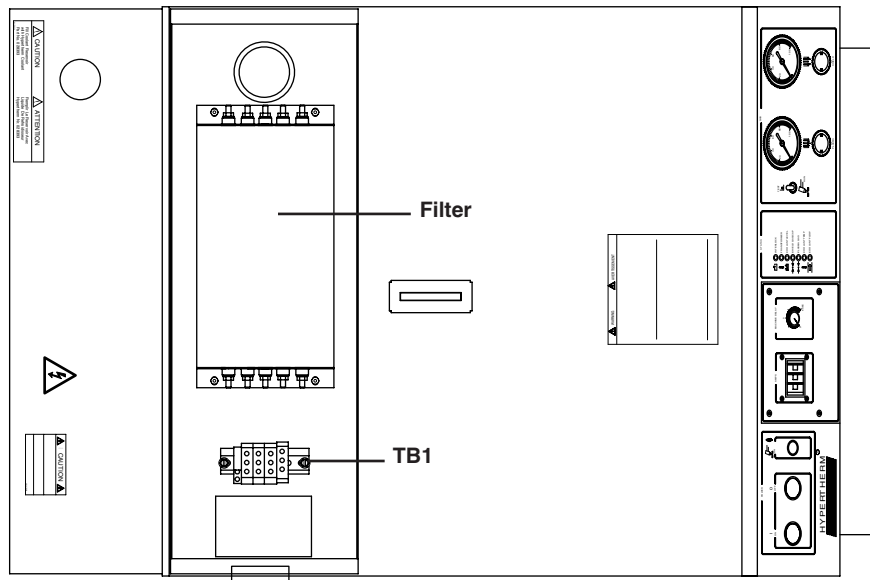

Figure a-2 MAX200 Power Supply with EMI Filter Cover Off – Top View
2. Unscrew the four filter cover screws and remove cover to access input voltage connections at TB1 (see Figure a-2).